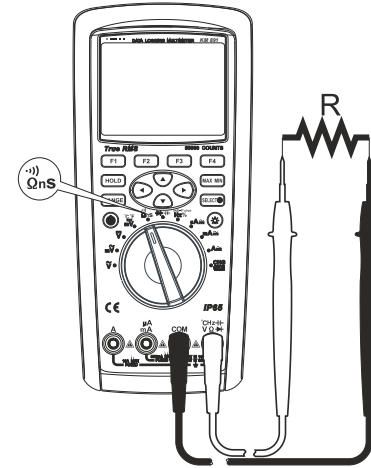

Figure 8
- 2) Set the rotary switch to the measurement Ω nS \rightarrow and current Ω is the default resistance measurement as shown in Figure 8. Connect the test leads to both ends of the measured resistance.
- 2) Set the rotary switch to the measurement Ω_{ns} . press the key SELECT to select conductance measurement 60nS. Connect the test leads to both ends of the measured resistance as shown in Figure 8.
- 2) Set the rotary switch to the measurement $\Omega nS \rightarrow$, press the key SELECT to select the continuity test \rightarrow . Connect the test leads to both ends of the measured resistance as shown in Figure 8. Press the function key MENU (Menu) to enter the menu items. If pressing the key SHORT (Menu), then the buzzer selects